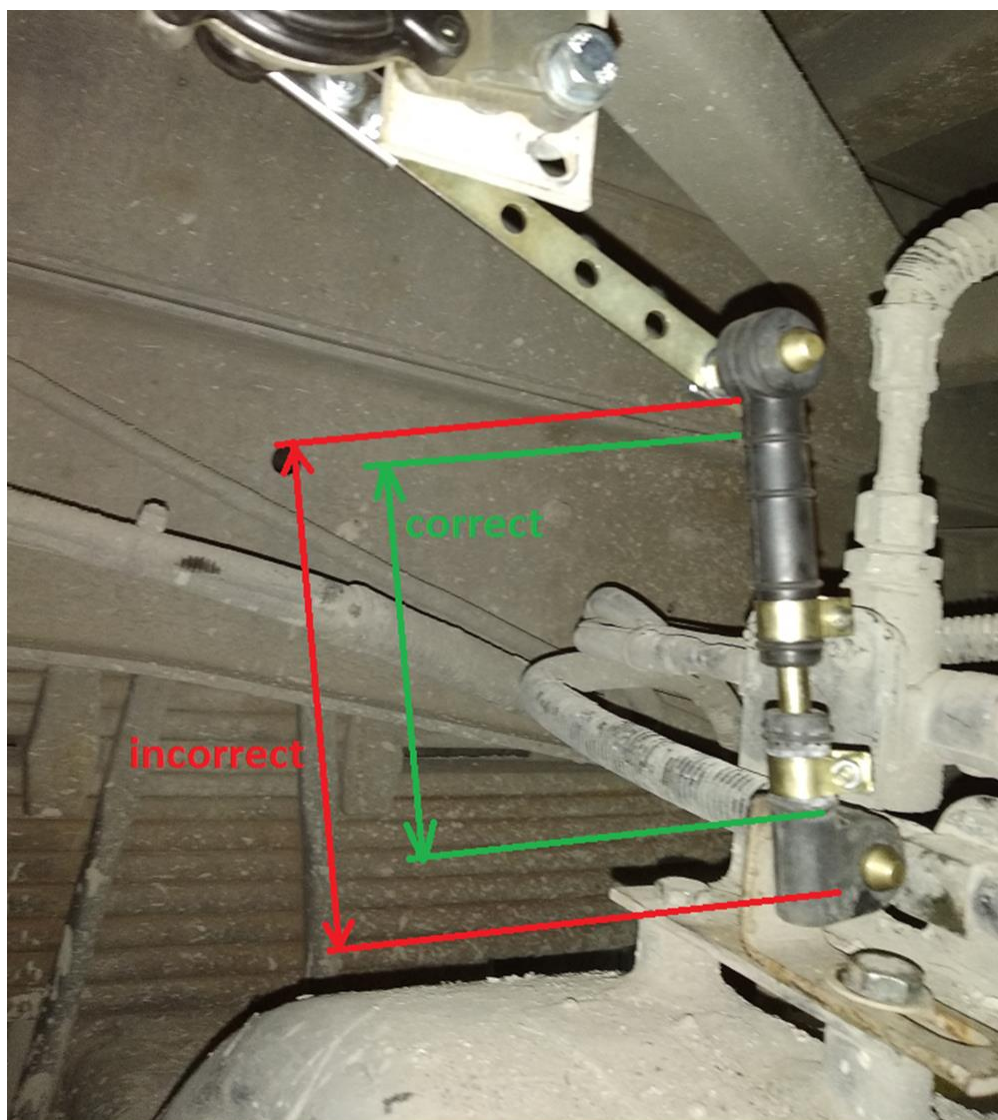

fig. 3.4. Correct and incorrect use of elastic elements
- Do not push the rod too deep into the elastic elements (fig. 3.4). The rod is fixed with pins through the elastic elements to the attachment point of the unsprung weight and the lever.
After downloading and installing the application, a registration form will appear on the screen (Fig. 3.4). Fill in all fields except the “Administrator Code” field and press the “OK” button.